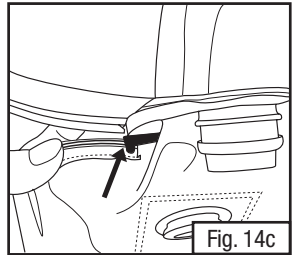

Fig. 14c
- Grasp the black shroud gasket and pull to expose the edge of the gasket where it meets the elastic (Fig. 14c). Align the edge of the gasket with the edge of the groove in the headgear. Press the gasket firmly into the groove in small sections, working your way around the shroud. Start at one end and work around in one direction. When you reach the end of the groove in the headgear on the other side from where you started, the gasket on the shroud may extend slightly beyond the edge of the groove - this is acceptable - but it is critical that both gasket ribs are completely inserted into the groove.